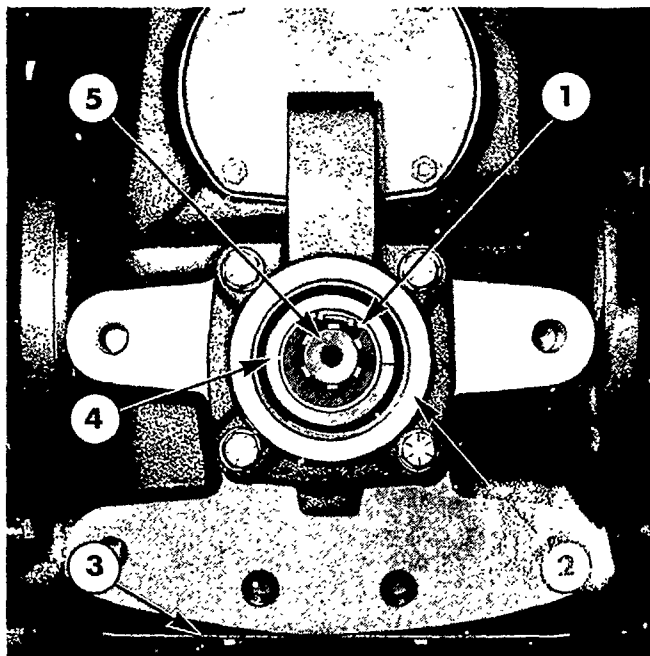

Figure 3
3. Remove the P.T.O. output shaft cap and then remove the retaining ring, Figure 3. Withdraw the output shaft.